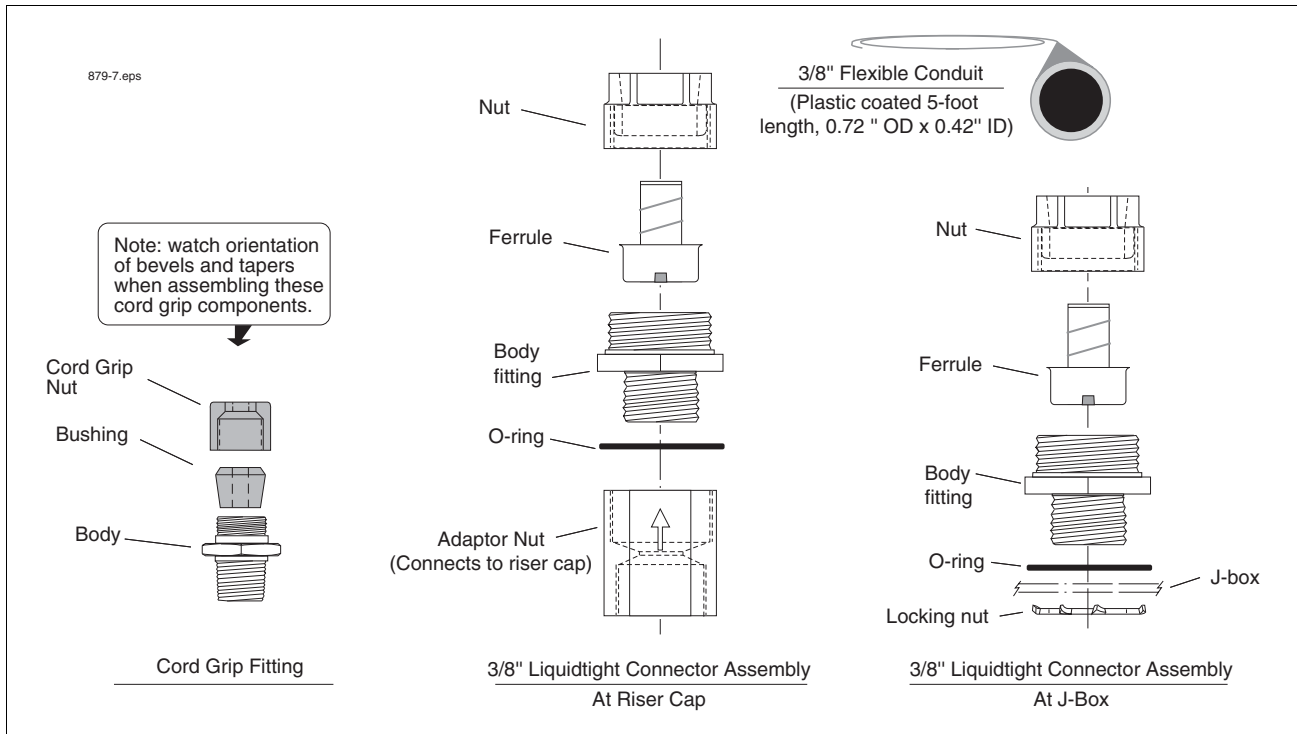
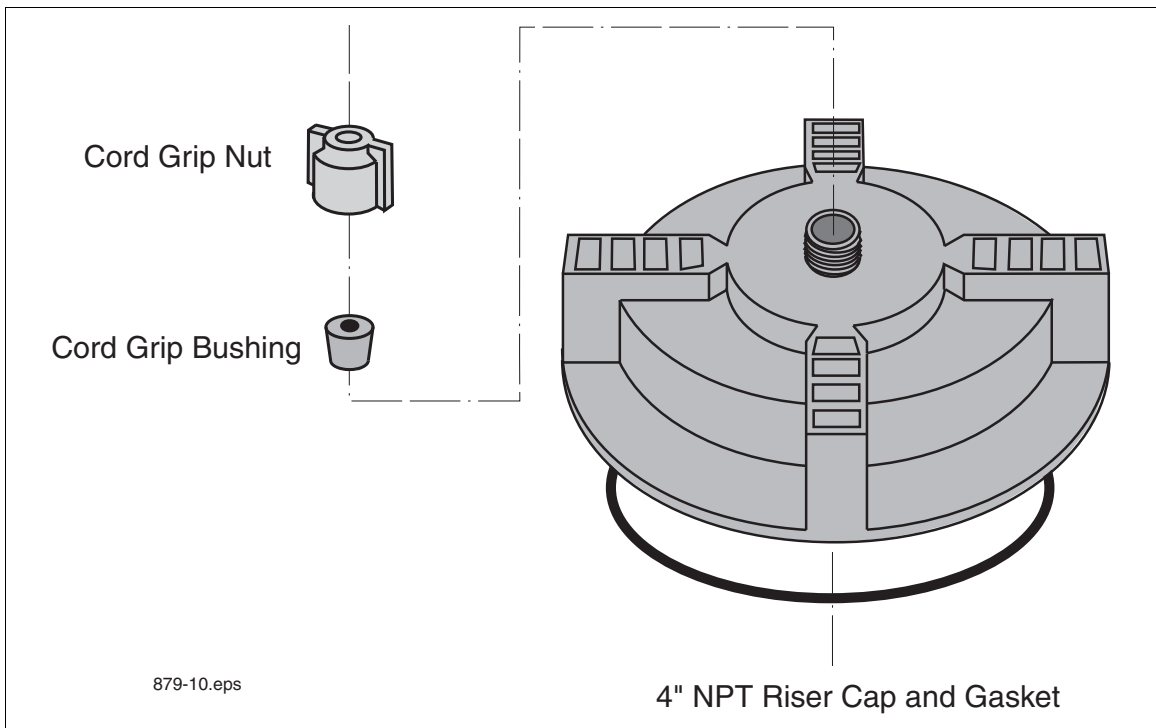
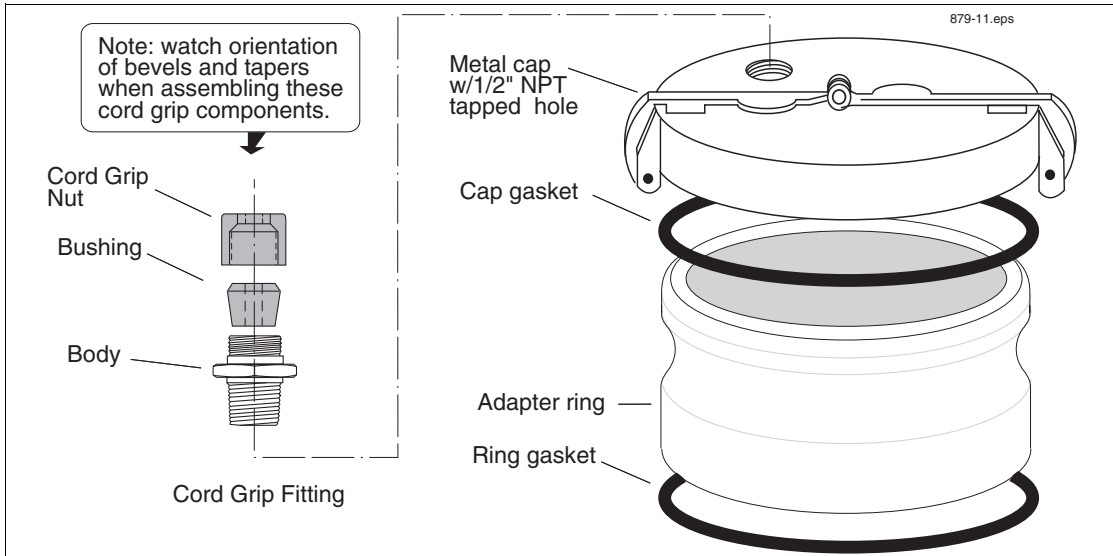

Figure 8. Mag Probe AST Installation Kit
Figure 11. Cap And Cord Grip Kit
Figure 12. Metal Cap And Ring Kit
This kit is recommended when installing Mag Probes into an above ground storage tank (AST). This kit contains a length of flexible conduit, connectors, etc., for easier probe access. The kit contents are listed in Table 4 and shown in Figure 8.
This Riser Cap kit (Table 7) contains a non-metallic cap which screws onto the 4" NPT riser (Figure 11). The cap comes drilled and tapped with a cord grip.
This riser cap kit contains an adapter ring which screws onto the 4" NPT riser and a quick-release metal cap which clamps onto the ring (Table 8). The cap comes drilled and tapped with a cord grip (Figure 12).
1. If you are using the one piece cap (see Figure 11 on page 18), push the end of the probe cable through the cord grip bushing and nut on the cap, leaving a minimal amount of slack between the probe and cap. Screw the cap onto the riser by hand until the gasket first contacts the pipe. Then lightly tap the cap with a hammer to tighten it an additional 3/4 turn. Go to Step 3.
2. If you are installing the metal cap and adapter ring (see Figure 12 on page 19), screw the ring onto the 4" riser until the gasket contacts the pipe, then use a pipe wrench to tighten it an additional 3/4 turn. Push the cable through the metal cap and cord grip, then clamp the cap onto the ring.
1. If you are using the one piece cap (see Figure 11 on page 18), push the end of the probe cable through the cap and cord grip bushing, leaving a minimal amount of slack between the probe and cap. Discard the cord grip nut and attach the Adaptor Nut from the AST kit to the cap (see Figure 8 on page 15). Tighten the Adaptor Nut until the cable is held firmly. Go to Step 3.
2. If you are installing the metal cap and ring (see Figure 12 on page 19), screw the ring onto the 4" riser until the gasket contacts the pipe, then use a pipe wrench to tighten it an additional 3/4 turn. Using UL-classified pipe sealant (suitable for the fuels involved), screw the cord grip fitting into the tapped hole and tighten. Place the cord grip bushing in the fitting. Discard the cord grip nut and loosely screw the Adaptor Nut from the AST kit onto the cord grip fitting (see Figure 8 on page 15). Push the cable through the metal cap, bushing, and Adaptor nut, then clamp the cap onto the ring. Make sure there is a minimal amount of slack between the probe and cap, then tighten the Adaptor Nut until the cable is held firmly.
3. Next assemble the liquidtight connectors on both ends of the flexible conduit as shown in Figure 8. Push the cable through the flexible conduit assembly and into the J-box. Connect the flexible conduit assembly to the Adaptor Nut on one end and the J-box on the other.